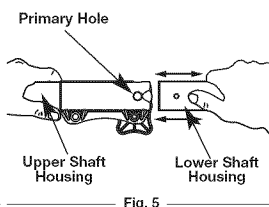

Fig. 5
3. While firmly holding the upper shaft housing, pull the lower shaft housing straight out of the EZ-Link™ coupler (Fig. 5).
2. While firmly holding the add-on, push it straight into the EZ-Link™ coupler (Fig. 5).